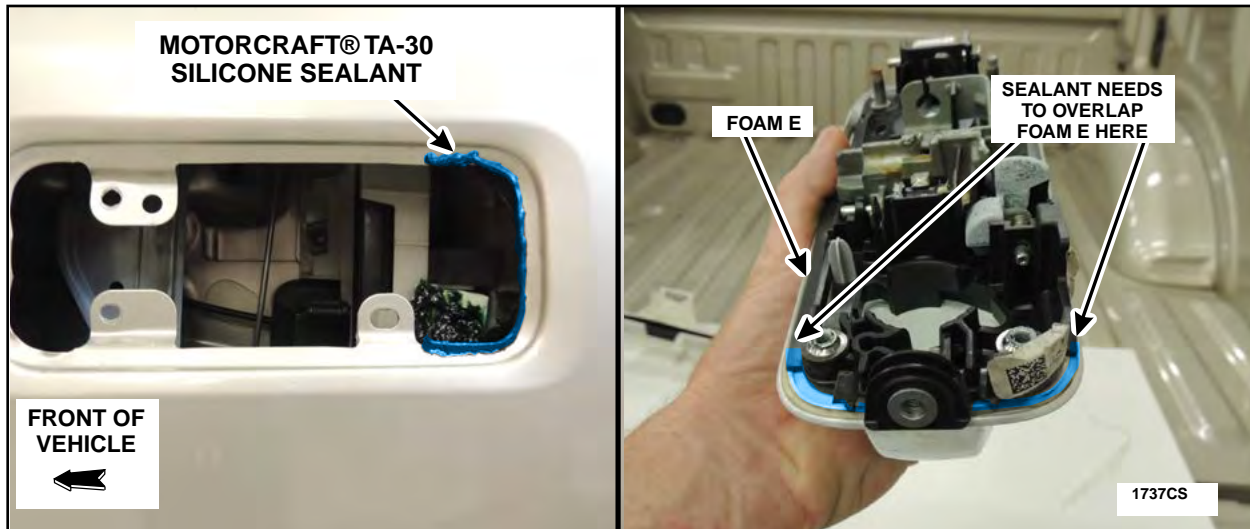

FIGURE 49
20. Apply a bead of Motorcraft® TA-30 silicone sealant to the latch side area of the front door exterior handle opening making sure that the sealant will overlap with the Foam E on the exterior door handle. See Figure 49.